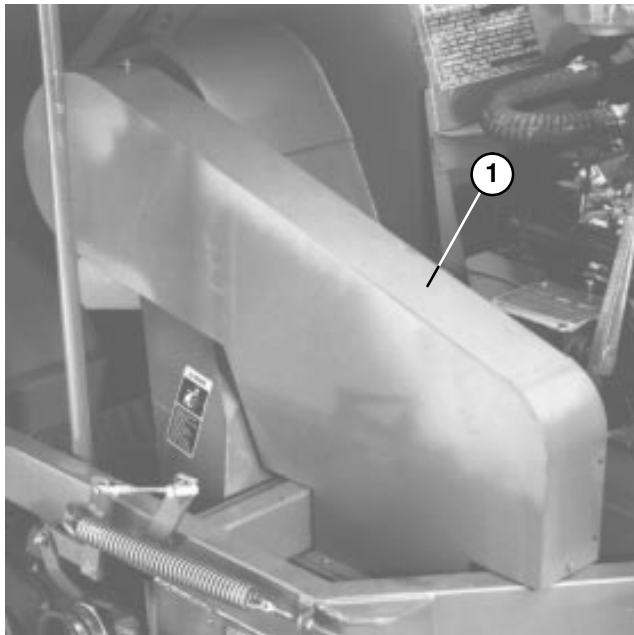

Figure 36
NOTE: It is not necessary to remove upper belt guard (Fig. 36) to check belt tension. If for some reason belt guard must be removed, remove (4) capscrews, washers and nuts securing guard to frame. **Never operate sweeper without guards in place.**
A. Remove (4) capscrews, washers and nuts securing upper shroud to frame (Fig. 36).